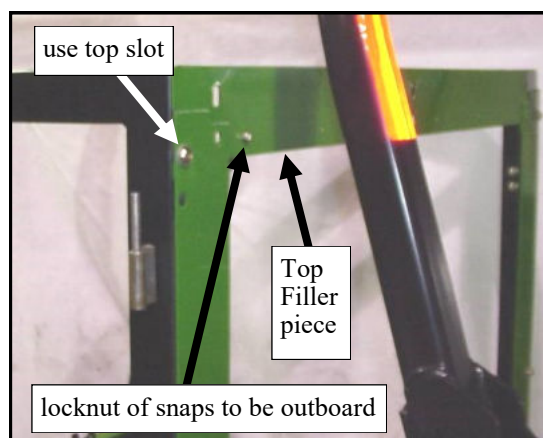

Fig. 5.1 View from left side of vehicle
5.1 Per fig. 5.1, install the top filler oriented so the long straight edge is up top. Fig. 5.1 shows a soft sided cab installation. The top filler should be sandwiched between the side frames and the rear legs. Use the following hardware: one 5/16-18 x 1" long button head bolt, one steel washer, and one plastic washer per side in the higher of the two slots as shown and into the factory installed threaded insert in the back of the side frame.
13.2 For model 2320 only, install the 6 supplied snaps and locknuts to the top filler piece with the locknuts on the outside surface. Note: extra snaps are provided in case one gets lost. Ref.: see fig. 5.1 on page 6.